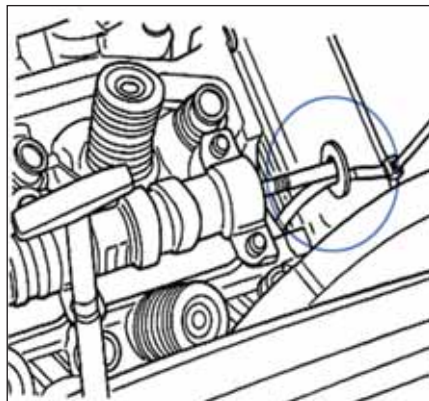

Figure 3 Feed the tie strap through the washer and attach to the engine.
2) Install the 1/2" washer on the bolt and install the bolt in the hole in the rear of the camshaft. Feed the tie strap through the washer and attach to the engine as follows: Front (left) cylinder head, route strap around exhaust pipe and pull strap tight (**Figure 3**, below).